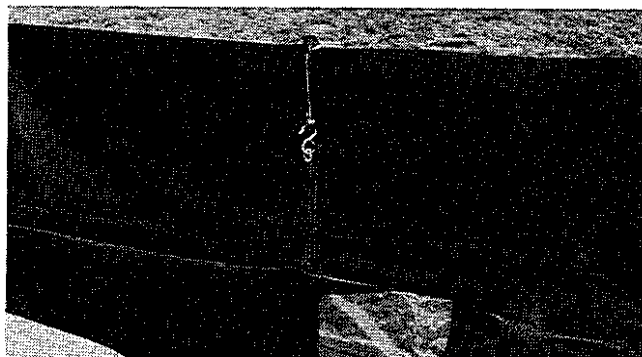
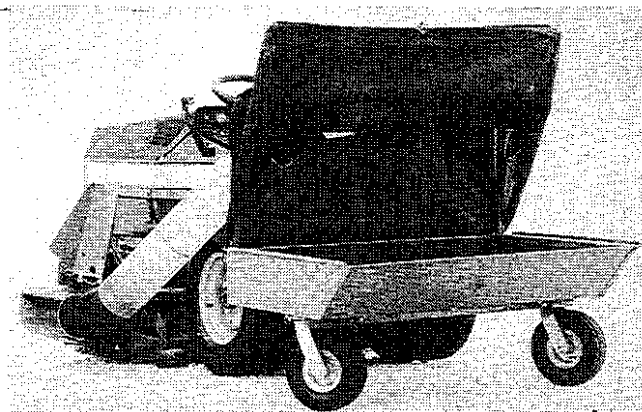

Figure 21
Figure 22
2. Unhook the strap from the door lock and raise the cover assembly to the open position. Lock the cover in place by hooking the strap to the locking tab in place by hooking the strap to the locking tab (figure 21). Also see figure 22.